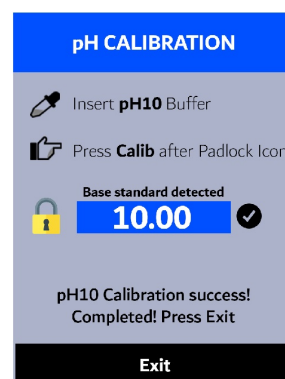

Figure 48.
23. If the calibration succeeds, a checkmark (✅), a "pH4 Calibration success!" or a "pH10 Calibration success!" message, and a "Completed!" message will appear (Figure 48). Otherwise, a warning message is displayed.